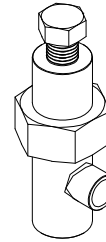

Figure 4.2: Pressure Regulator Valve
Step 9: Observe the system pressure on the High Pressure Gauge. During RO production, the indicated pressure should be at 800 psi. If the pressure reading is not at 800 psi, adjust the nut on top of the pressure regulator valve (Refer to Figure 4.2) using a wrench until the reading reaches 800 psi.